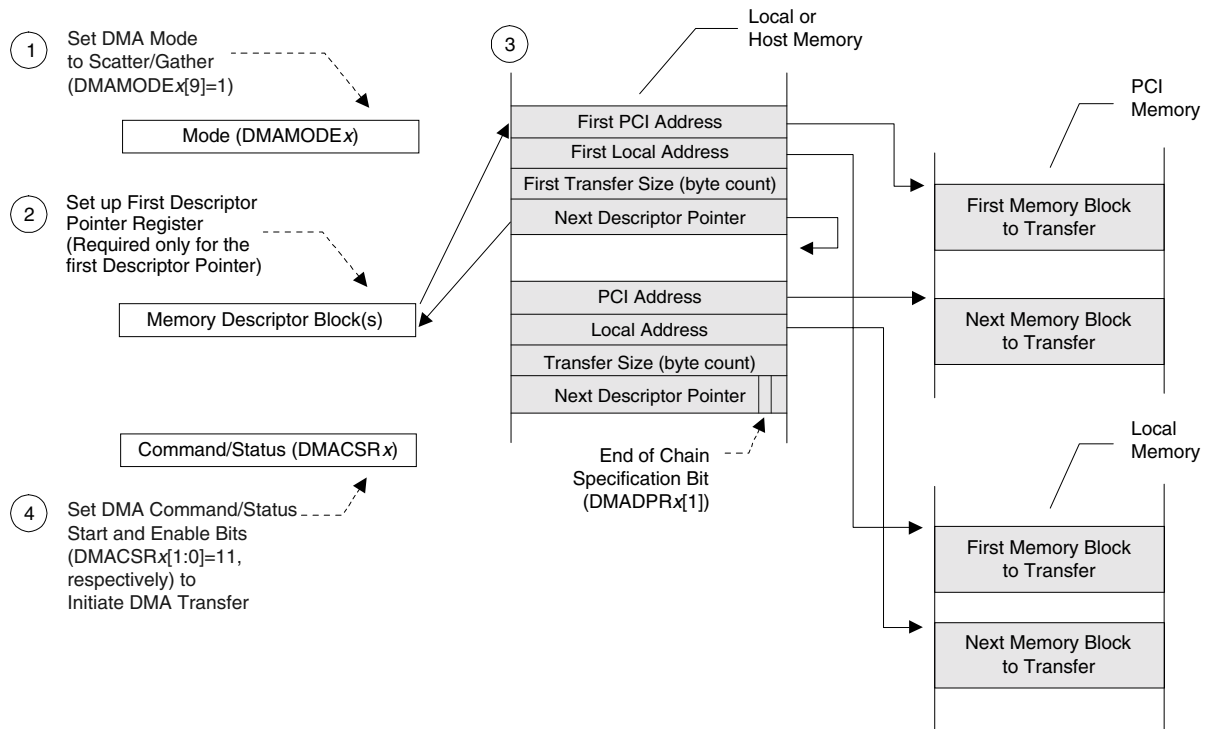

**Figure 3-17. DMA Scatter/Gather Mode Descriptor Initialization
- DMADACx contain(s) a non-zero value. DMAMODEx[18] is set to 0. The PCI 9056 performs a Single Address Cycle (SAC) 4-Lword descriptor block load from PCI memory and DMA transfer with DAC on the PCI Bus. (Refer to Figure 3-17.) The DMA descriptor block starting addresses should be 16-byte-aligned.